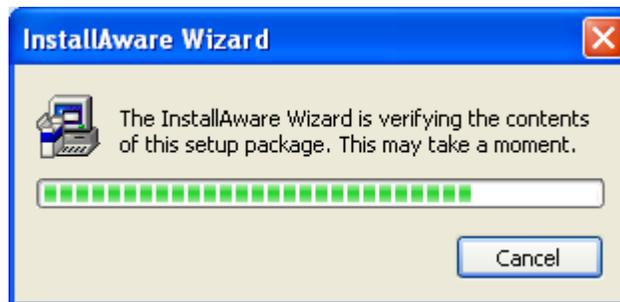
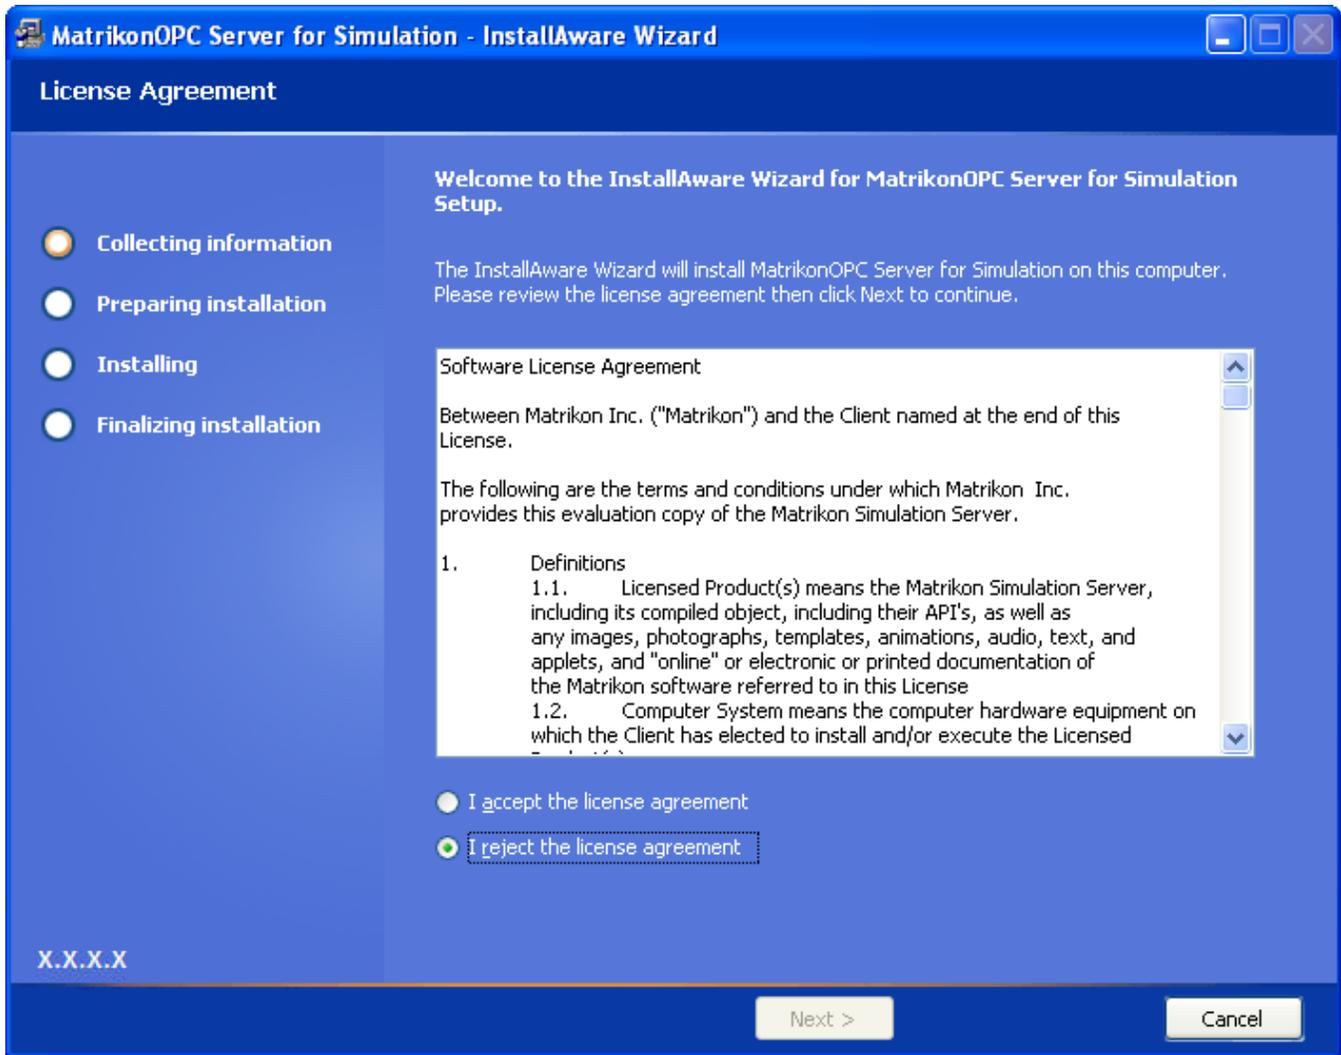

Figure 1 - InstallAware Wizard Verification Window
Figure 2 - License Agreement Screen
The *User's Manual* has been designed so that you can click on references in the document to jump to that referenced point without having to scroll through several pages (in some cases). For example, if you were to see the sentence "*Refer to Figure 1 for more information*", pressing the
**CTRL** key and clicking your mouse on the text "*Figure 1*" will automatically take you to the location of Figure 1 within the document.
2. If the MatrikonOPC **Welcome** screen does not automatically appear, double-click the *MatrikonOPCSimulation.exe* file. The **MatrikonOPC Server for Simulation – InstallAware Wizard** verifies its contents (Figure 1), and the **License Agreement** screen (Figure 2) appears.